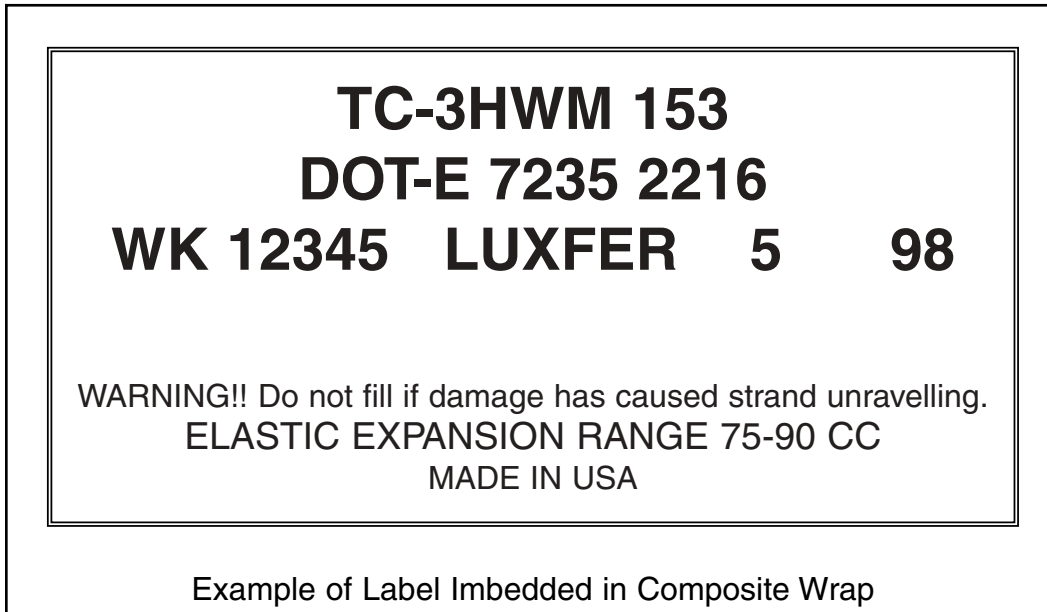

FIGURE 3.
**labels:** Composite cylinders are not generally 'marked' (see **markings**) but are, instead, labeled. The exception may be hoop-wrapped cylinders, which may have retest information stamped into the crown portion. Composite cylinders have their information printed on labels that are then embedded in the composite material. Retest information for composite cylinders is most often put on labels and then those labels are put on the composite material of the cylinder and sealed with a coating of resin. However, hoop-wrapped cylinders may have retest markings stamped in the metal dome area. The resin-coated labels (and any stamped retest markings) must never be disturbed, removed or covered. If the serial number becomes illegible or is for any reason unknown, the SCBA cylinder must be condemned. If the first hydrotest date or manufacturer's or supplier's name, product identification, etc. on the original embedded label is obscured or at any time illegible, the cylinder must be taken out of service until the proper information is put back on the cylinder. See FIGURE 3 and 4.